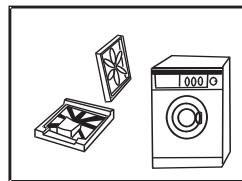

Fig. 1
- Remove all the packing materials to prevent vibration during use. Upon opening of the package, water drops may be seen on the plastic bag and the porthole. This is normal phenomenon resulting from water test in the factory as shown in Fig. 1.